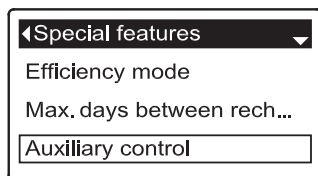

FIG. 139
1. From any of the rolling status screens, press the SELECT (O) button to display the **Main menu**.
3. Press the SELECT (O) button to display the Advanced settings menu.
5. Press the SELECT (O) button to display the Special features menu (See Figure 139).
9. Press the SELECT (O) button. The display will go back to the Special features menu (Figure 139).